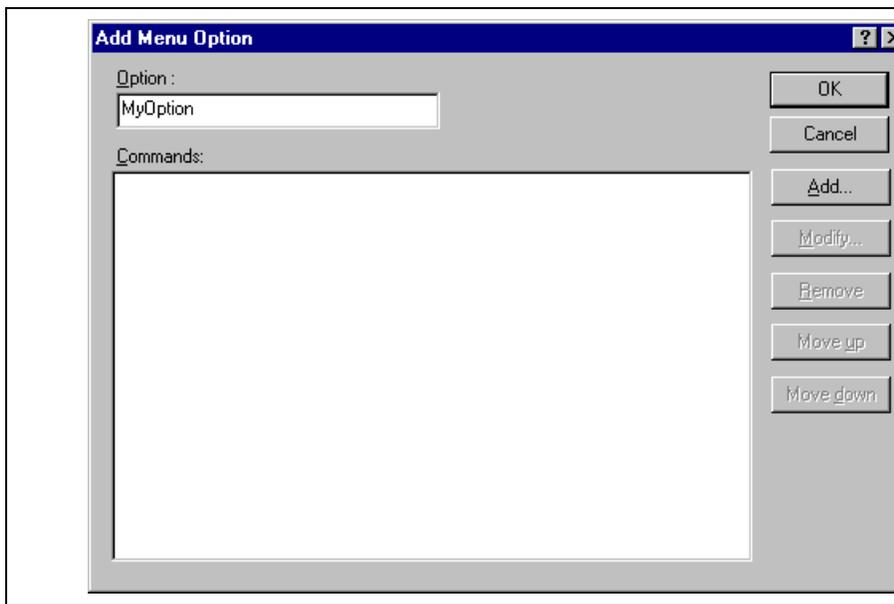

Figure 8.4: Add Menu Option Dialog
2. Click the “Add..” button. The dialog shown in * MERGEFORMAT figure 8.4 will be displayed.
1. Select [**Version Control->Configure...**]. The dialog shown in * MERGEFORMAT figure 8.4 will be displayed.
2. Select the menu option to be modified from the “User menu options” list and then click the “Modify” button beside the list. The dialog shown in * MERGEFORMAT figure 8.4 will be displayed. (The title of the dialog is “Modify Menu Option”.)